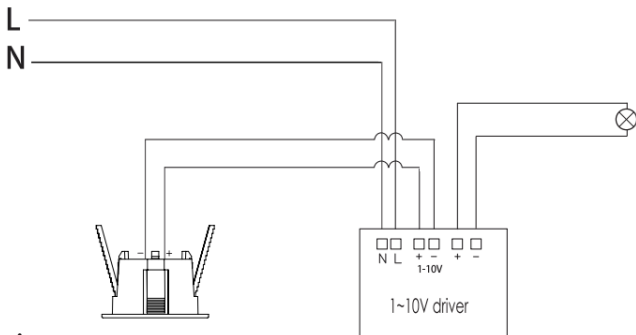

Fig. 4
- Connect the sensor to a 1-10V dimmable driver ensuring the correct polarity is observed (see Fig. 4): Red (+), Black (-)